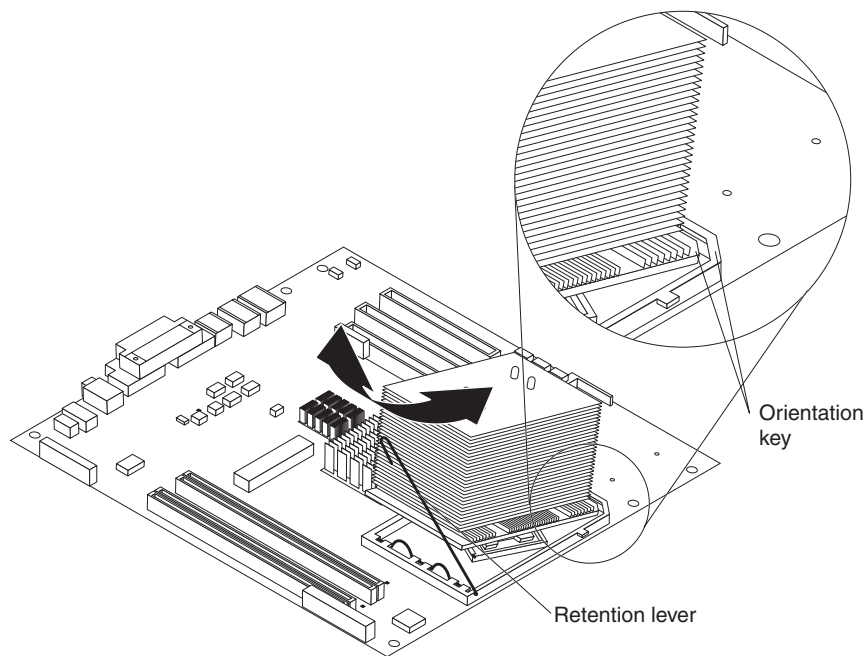

Figure 45. Removing the heat sink
8. Remove the heat sink from the microprocessor (see Figure 45):